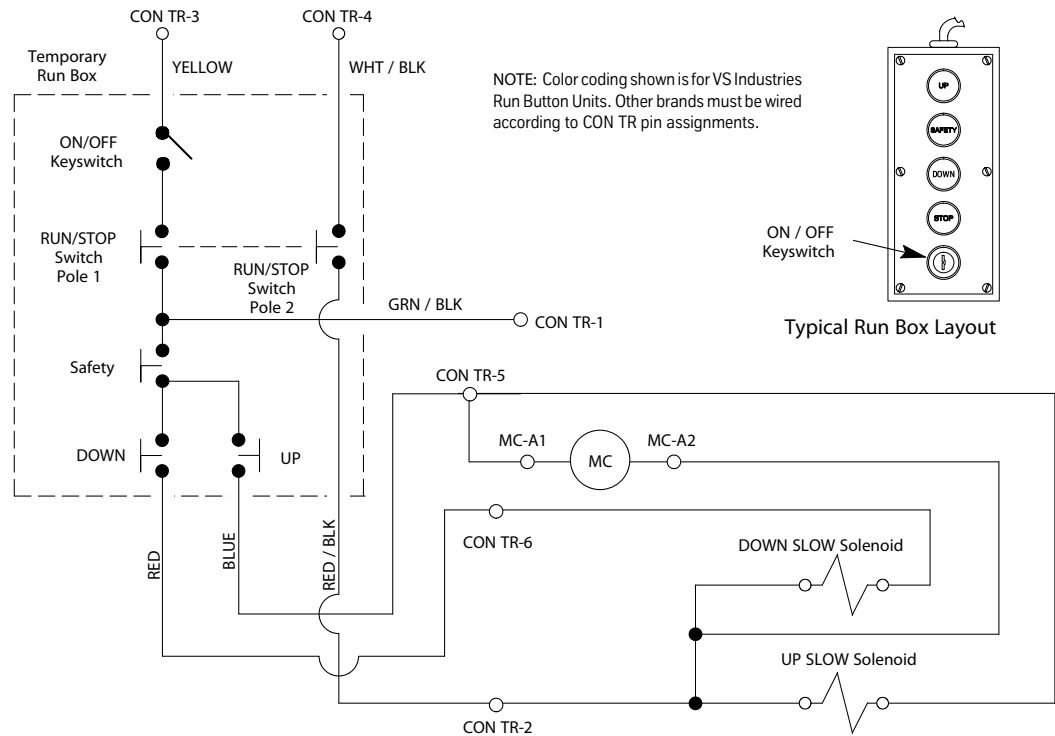

Figure 3 - Temporary Operation Connections
4. Verify the temporary orange jumpers. See the wiring diagrams and Figure 3 on page 12,
5. Connect the temporary run box (as shown in Figure 3) to temporarily run the connector in the controller.